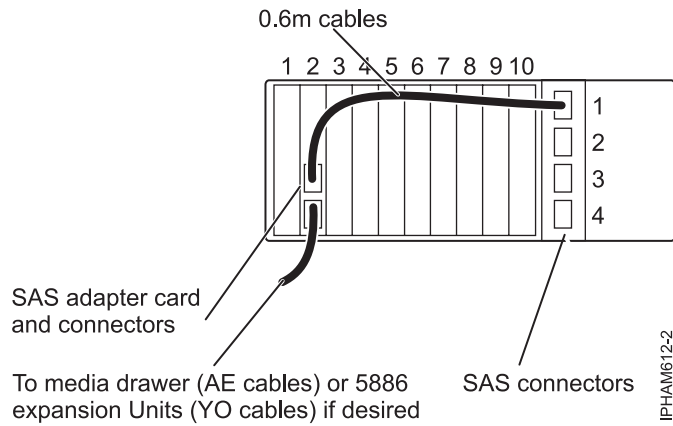

Figure 6. Physical cabling example: One hard-disk-drive partition with 18 disks, a single SAS adapter, and hard-disk-drive partitions switch position 1
<p>One hard-disk-drive partition with 18 disks and a single SAS adapter.</p>	<p>For related physical cabling, see Figure 6 on page 32.</p> <p>Operating system: AIX or Linux</p> <p>SAS adapter: One (FC 5901) - PCIe Dual - x4 SAS Adapter</p> <p>Hard-disk-drive partitions switch: position 1</p> <p>Cables: One (FC 3688) - SAS cable (AT) 0.6 meter.</p>